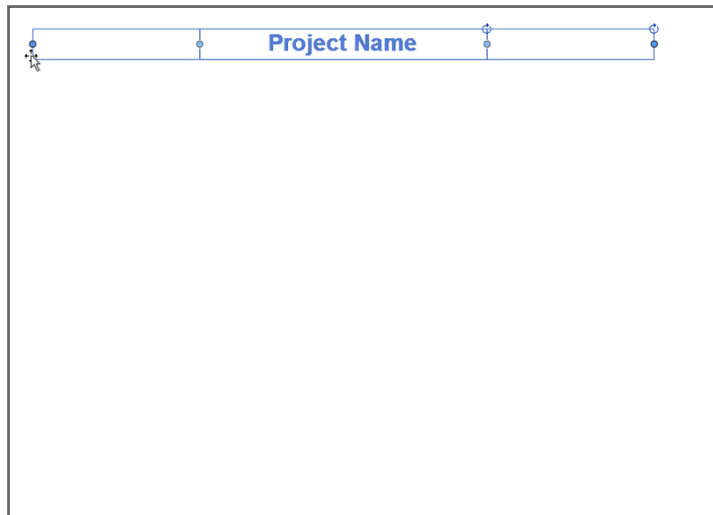

FIGURE 14.29: Adjusting the label so that it's centered in the sheet
3. Click the label, and widen the grips. You may have to adjust the label so that it's centered in the sheet, as shown in Figure 14.29.